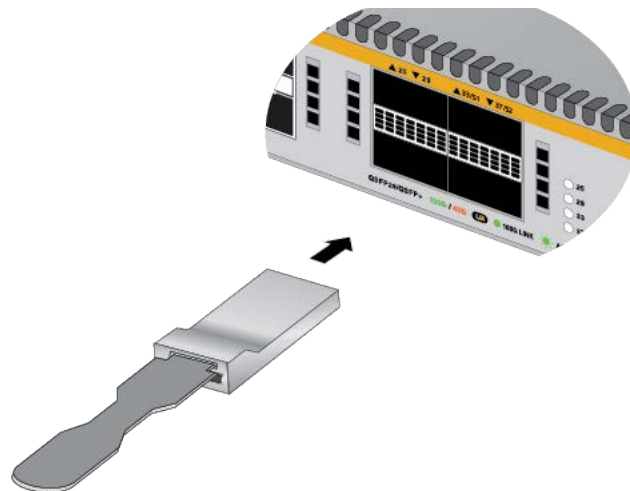

Figure 39. Installing a QSFP28 Transceiver
2. Slide the transceiver into port 25, 29, 33, or 37 until it clicks into place. See Figure 39.